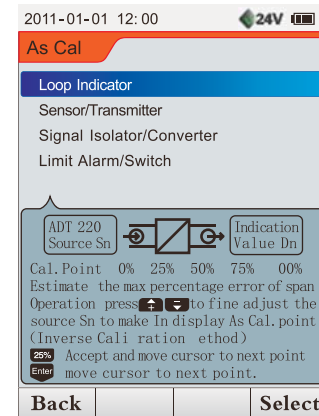

Figure 9.27
In order to improve user productivity, we provide a quick calibration tools As Cal for 4 kinds of field instruments which are loop display device, the sensor/transmitter, signal isolator/converter and limit alarm/switch. First, in the main interface (Figure 9.1), the instrument was seized under the input and output, measured calibration set, the output of the scale display range, and then press key **AsCal** into the calibrator As Cal function, as shown in Figure 9.27 Interface, select the instrument calibrated.
1. In the main interface (Figure 9.1) is set calibrator: current output and change the scale range (4 ~ 20) mA, linear, press **AsCal** key tools into As Cal list, as shown in Figure 9.27.